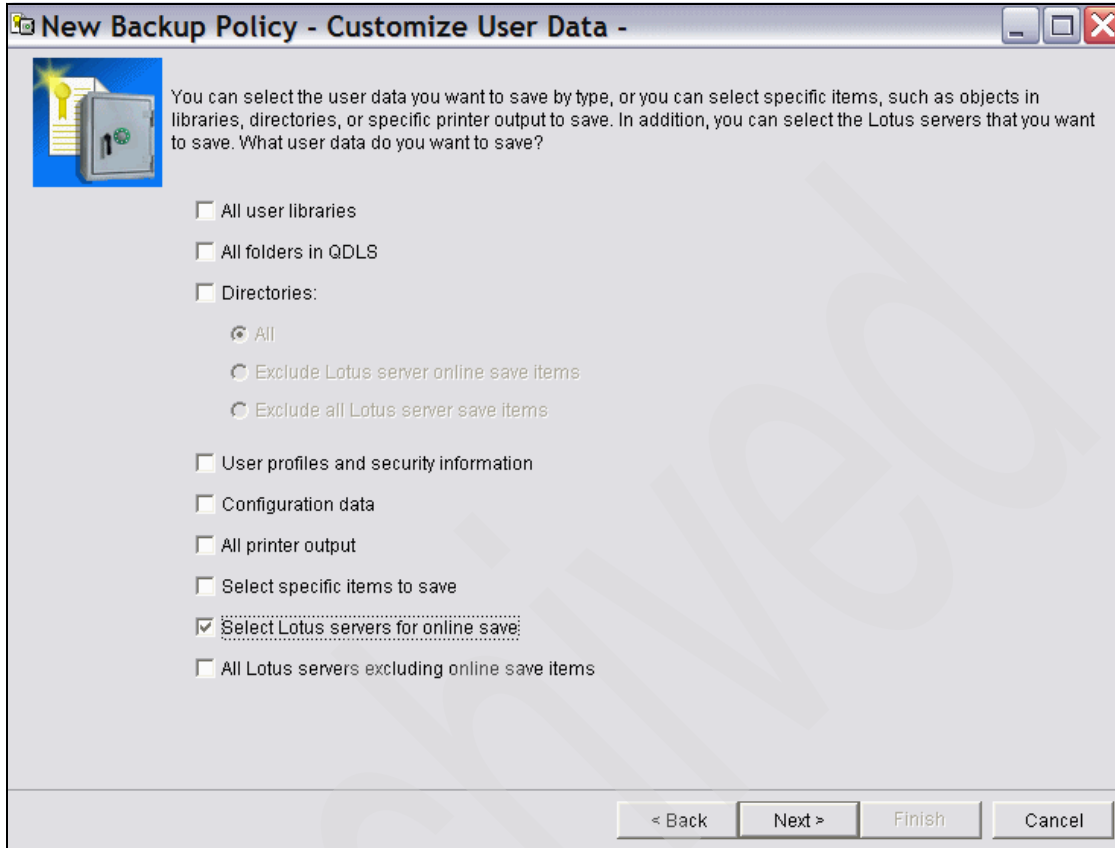

Figure 5-20 BRMS backup policy, customize user data
7. In the Customize User Data window shown in Figure 5-20 on page 208, check **Select Lotus servers for online save**, and click **Next**.